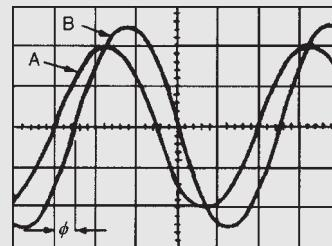

Figure 10.20
**Problem 10.** For the double-beam oscilloscope displays shown in Fig. 10.20 determine (a) their frequency, (b) their r.m.s. values, (c) their phase difference. The ‘time/cm’ switch is on 100  $\mu\text{s}/\text{cm}$  and the ‘volts/cm’ switch on 2 V/cm.